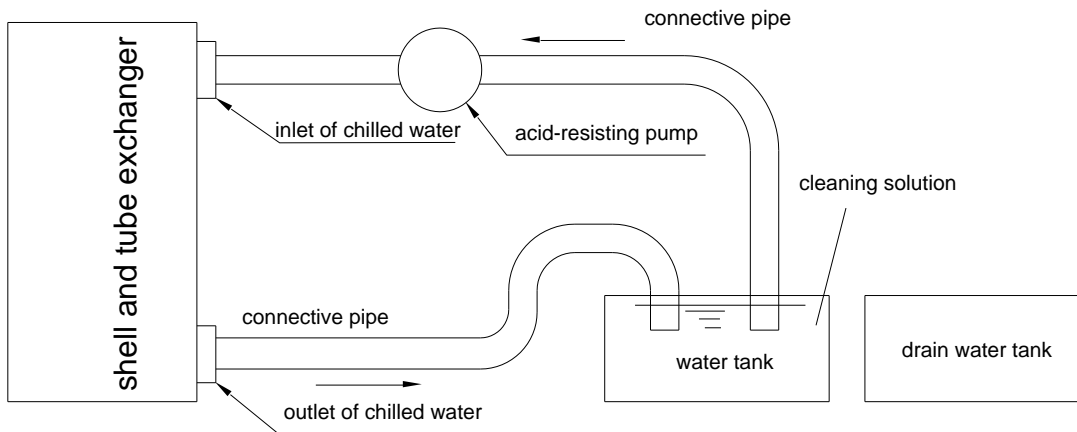

Figure 5.1 Connection of Cleaning Water System
- Stop the unit, turn off the circulative water pump, cut the connection of shell-and-tube heat exchanger, and install an anti-acid water pump to form a circulative water circuit as Figure 5-1.